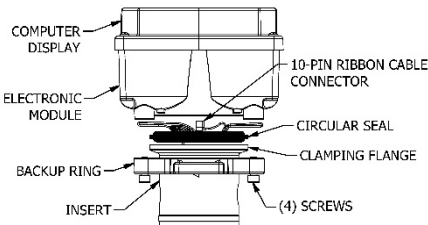

Figure C4A
Tightening the (4) screws will tighten the backup ring against the clamping flange and the electronic module against the gasket. (See figure C4A)
NOTE: Before tightening the (4) screws, ensure the gasket is seated properly. (See Figure C4A)